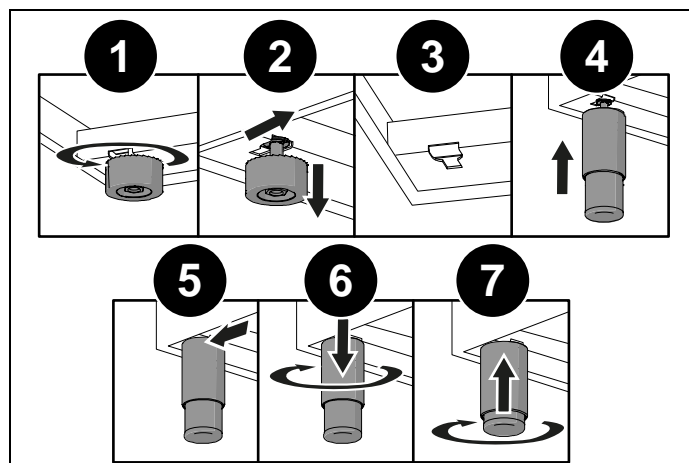

Fig. 43
- remove the supports (1 and 2, Fig. 43 ),
- fit the feet into the keyhole in the underside of the appliance (3 and 4, Fig. 43 ),
- screw the feet down until they are securely fixed to the base (5 and 6, Fig. 43 ),
Adjust the feet to the correct height (7, Fig. 43 ).
When lowering the appliance, do not maintain the pressure on the feet (Fig. 43 ). Use a shim underneath the base or a pallet to avoid tilting the cooker.